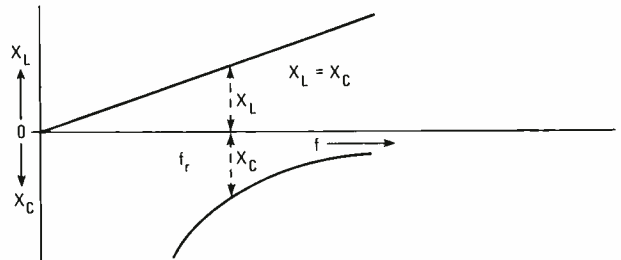

Fig. 4— X_L always equals X_C at the resonant frequency.
7. (resonance, 7) As you know, both X_L and X_C vary with frequency. The graphs in Fig. 4 show this variation. X_L increases as frequency increase. X_C decreases with frequency. But for various combinations of L and C, there is one frequency where $X_L = X_C$. This is said to be the resonant frequency (f_r) of this LC circuit. If we change either L or C, the X_L or X_C changes and the resonant frequency f changes.